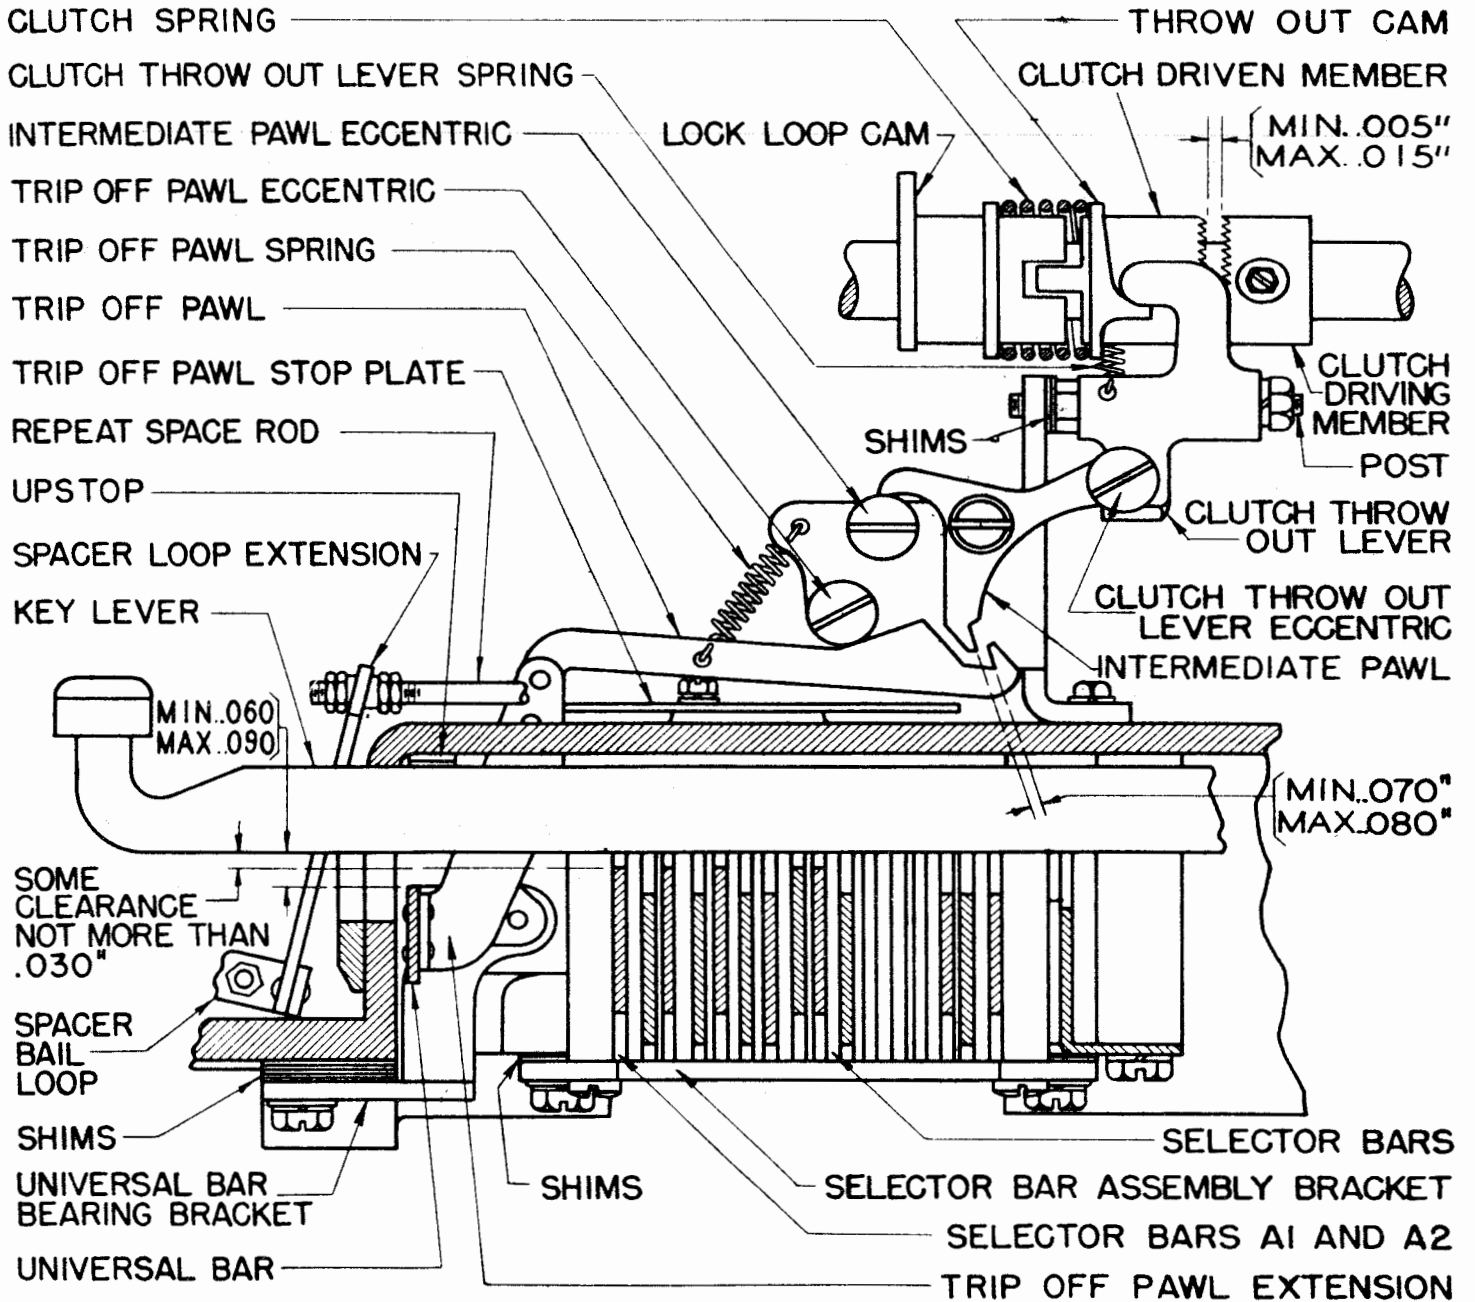

Figure 7
Requirement 1: (Factory Adjustment) All keylevers should have some play between the upstop and the selector bars. Levers in line with the high portions of the front selector bar A1 should clear the bar by not more than 0.030 inch when the bars are locked in position by the depression of either (1) the Q keylever, (2) the P keylever, or (3) the B keylever. See Figure 7.
Requirement 2: (Factory Adjustment) There should be some clearance, not more than 0.020 inch, between the rear selector bar (E2) and the unoperated keylever which has the least clearance, when the T keylever is held fully depressed. See Figure 7 for identification of parts.
To Adjust: Change number of shims under the two rear corners of the selector-bar-assembly bracket and recheck 2.07. See Figure 7 for identification of parts.
To Adjust: Reposition selector-bar-assembly bracket, keeping bracket parallel to the rear keylever guide and recheck 2.05. See Figure 7 for identification of parts.
2.13 Tripoff-pawl Stop Plate should be positioned so that the tripoff pawl clears the intermediate pawl by minimum 0.070 inch, maximum 0.080 inch when the tripoff pawl is resting against the front end of the stop plate, and when the intermediate pawl eccentric is positioned with the high part of the eccentric toward the front and its screwdriver slot is horizontal. See Figure 7.
extension is approximately midway between adjacent keylevers and should clear the bottom of the keylevers by minimum 0.060 inch, maximum 0.090 inch when the levers are in their normal unoperated position. See Figure 7.
the clutch fully disengaged. Gauge by eye and feel. See Figure 7.